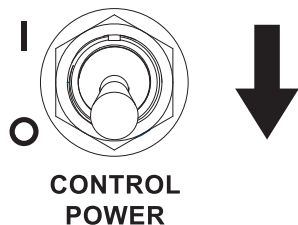

Figure 3-41. Controller Power OFF (O)
- See Figure 3-41. Switch controller power to OFF (O).